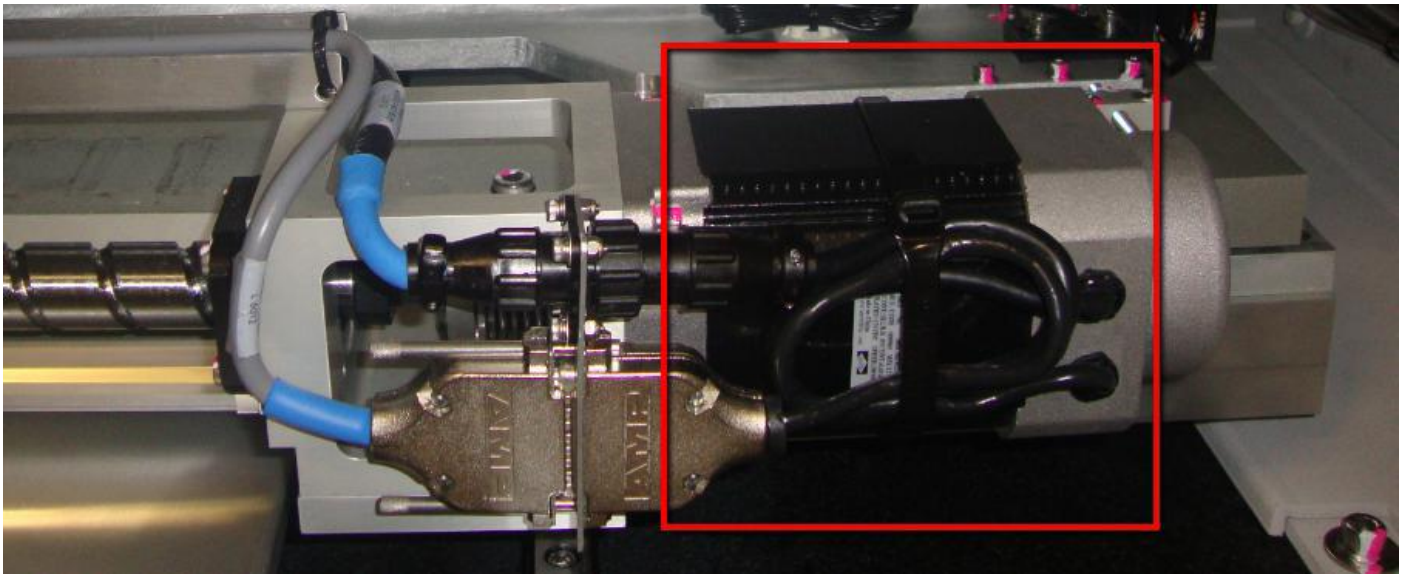

Figure 10 Motor cable routing [COMPLETE]
14. Route the cable as shown and apply cable to tidy up the extra length cable. May refer to below Figure 10.